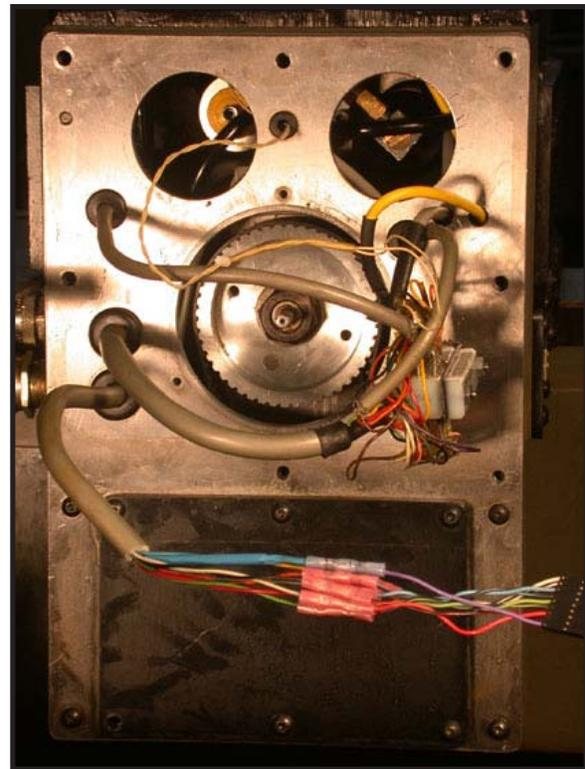

Figure 4.1.8
Reinstall the X encoder mounting plate to the back plate using the 3 cam lock screws previously loosened. Put the new encoder on the end of the ball screw shaft and loosely insert the 6-32 screw. Align the encoder, then tighten the (2) set screws onto the ball screw shaft, then tighten the 6-32 mounting screw for the encoder to the base plate. Plug the encoder connector into the new connector that was butt spliced onto the existing X feedback cable (Figure 4.1.8). Do not replace the feedback covers until proper axis motion has been verified.